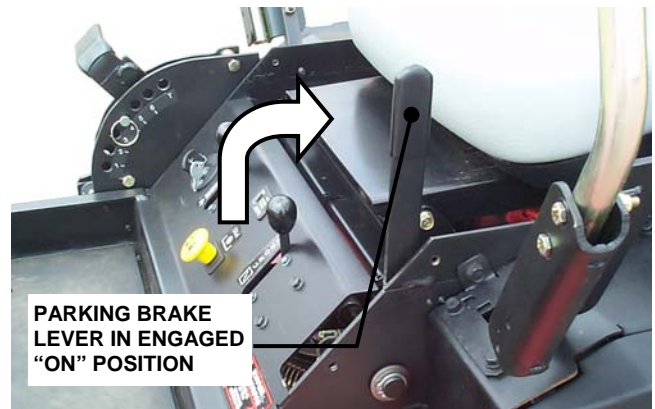

FIGURE 3.7
1. Engage parking brake by pulling the parking brake lever back to the engaged position. See Figure 3.7.